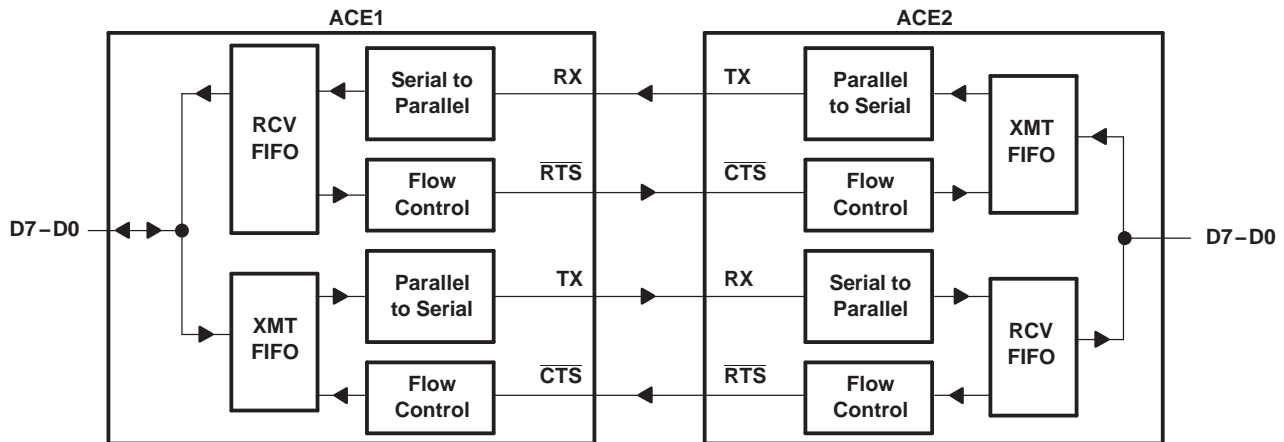

Figure 1. Autoflow Control (Auto-RTS and Auto-CTS) Example
**Autoflow Control (see Figure 1)**
The transmitter circuitry checks CTS before sending the next data byte. When CTS is active, it sends the next byte. To stop the transmitter from sending the following byte, CTS must be released before the middle of the last stop bit that is currently being sent (see Figure 1). The auto-CTS function reduces interrupts to the host system. When flow control is enabled, CTS level changes do not trigger host interrupts because the device automatically controls its own transmitter. Without auto-CTS, the transmitter sends any data present in the transmit FIFO and a receiver overrun error may result.